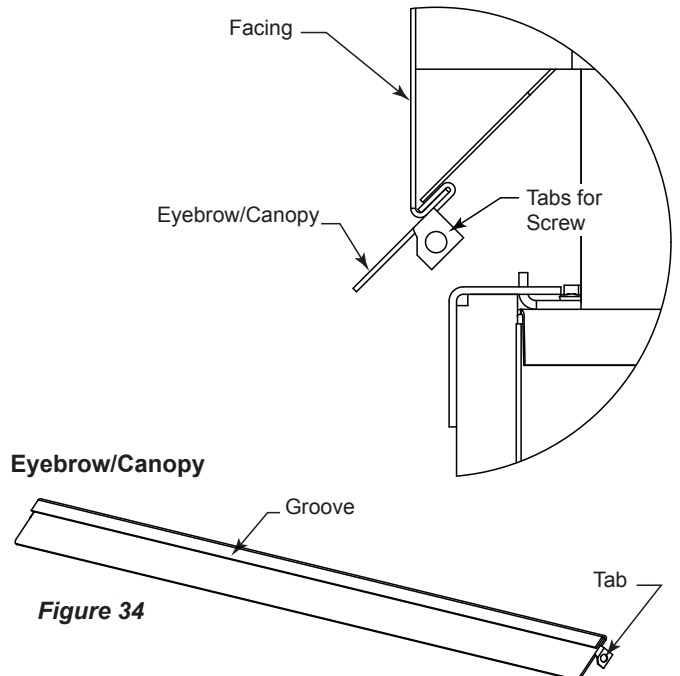

Figure 34
2. Hold eyebrow/canopy with groove facing up and tabs for screws facing down. *Figure 34*
3. Install by placing eyebrow under bottom lip of facing. Hook bottom lip of facing into groove of eyebrow. Pull eyebrow forward until it stops. *Figure 34*